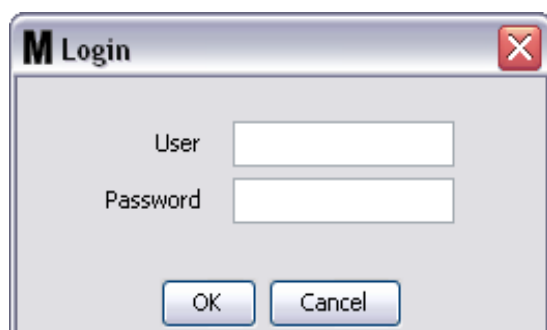

FIG. 115
- The popup box shown in FIG. 115 appears for you to provide a User Name and Password.